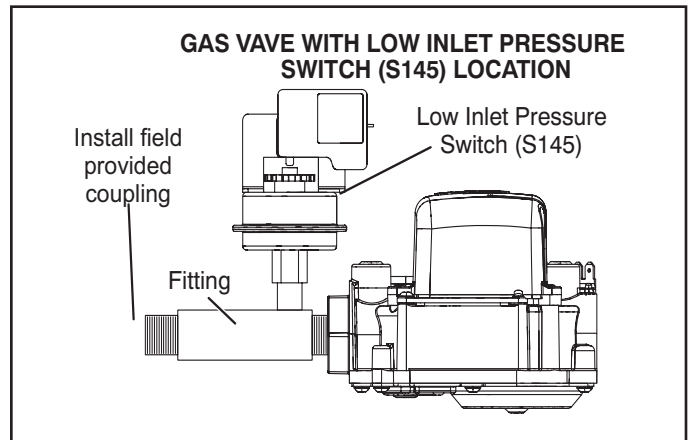

FIGURE 3
- 9 - Thread the gas supply to the fitting until hand tight. A field provided coupling may be needed. See figure 3. Using properly sized wrench to support fitting, tighten supply line into fitting 2 to 3 full turns to to achieve leak free joint.